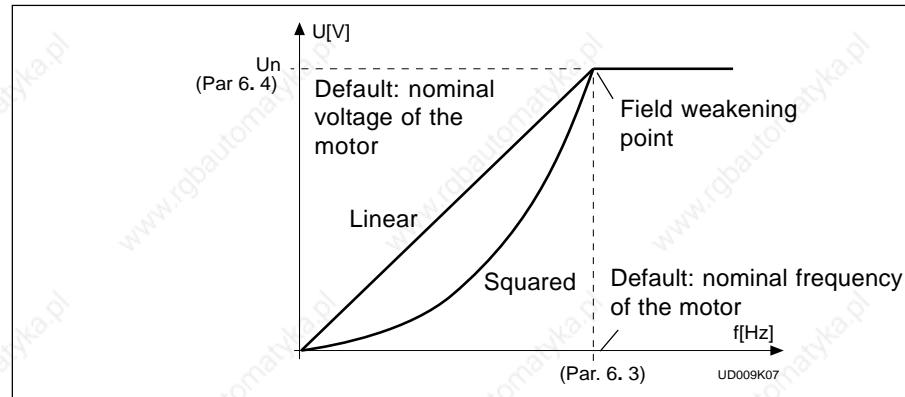

Figure 1.4-2 Linear and squared U/f curves.
Linear: The voltage of the motor changes linearly with the frequency in the constant flux area from 0 Hz to the field weakening point (par. 6. 3) where the nominal voltage is also supplied to the motor. See figure 1.4-2.
0 where the nominal voltage is also supplied to the motor. See figure 1.4-2.
**Squared:** The voltage of the motor changes following a squared curve form with the frequency in the area from 0 Hz to the field weakening point (par. 6. 3) where the nominal voltage is also supplied to the motor. See figure 1.4-2.